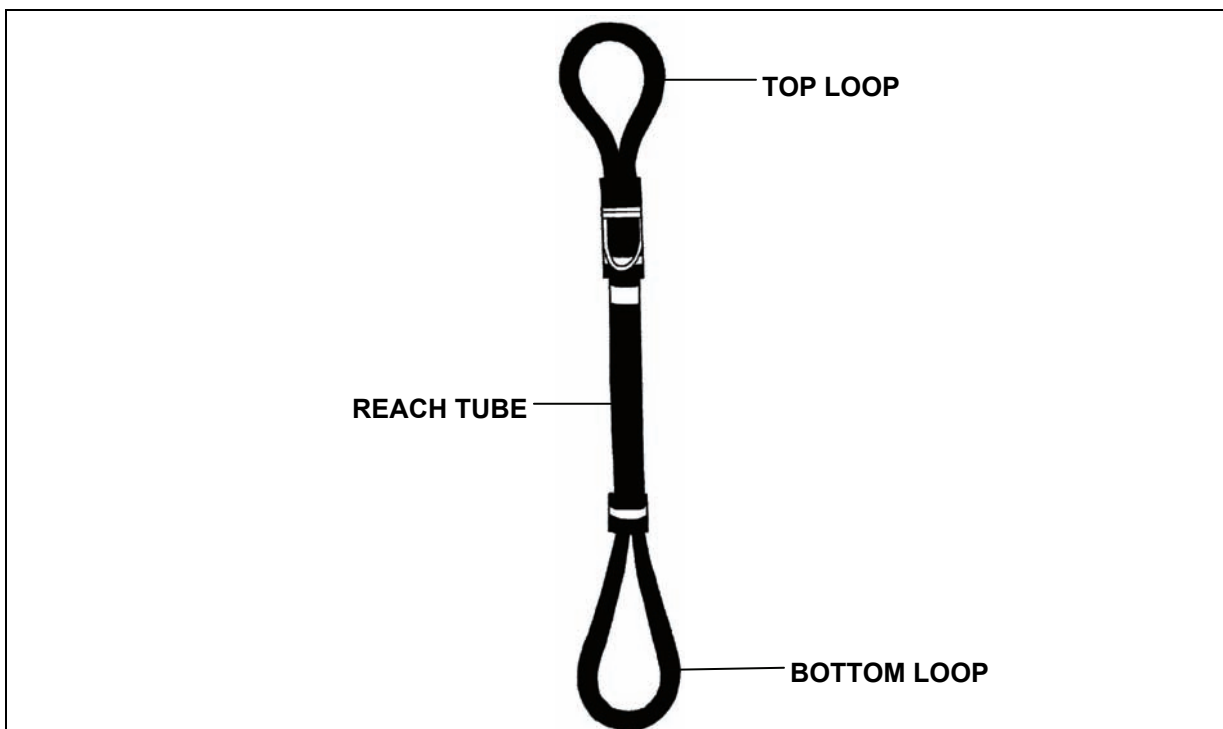

Figure 8-29. 11,000- and 25,000-Pound Capacity Reach Pendants
(Figure 8-29). Remove the sling set apex fitting pin; place the pendant lower eye in the apex fitting; and reinstall the apex fitting pin to use the pendant with a sling set.
- **The 25,000-Pound Capacity Reach Pendant.** The 25-K, NSN 4020-01-337-3185, part number BOS-14-K7, is a reach pendant approximately 5 feet long with a 25,000-pound safe working load capacity. The top eye is black and has a smaller diameter loop, while the bottom eye is black with a larger diameter loop. The safe working load capacity is stamped on the reach tube (Figure 8-29). Remove the sling set apex fitting pin; place the pendant lower eye in the apex fitting; and reinstall the apex fitting pin to use the pendant with a sling set.